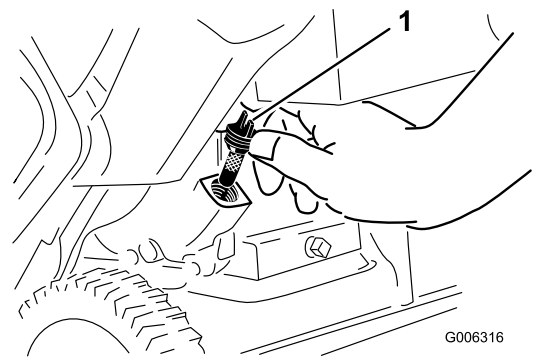

Figure 26
7. Unscrew the dipstick and remove it (Figure 26).